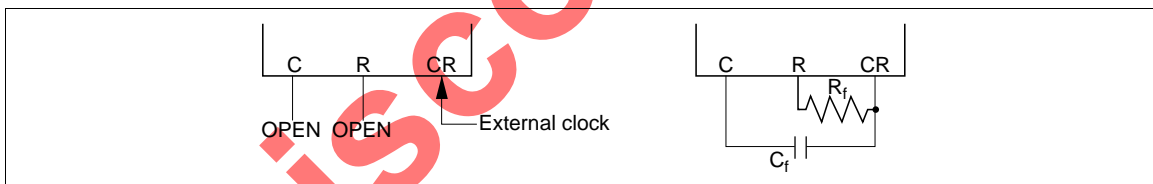

Figure 4 Oscillator Connection in Master Mode
**1. CR Oscillator:** The CR oscillator generates the HD66503 operation clock. During master mode, since the operation clock is needed, connect oscillation resistor  $R_f$  with oscillation capacitor  $C_f$  as follows. When the external clock is used, input external clock to pin CR and open pins C and R (Figure 4).